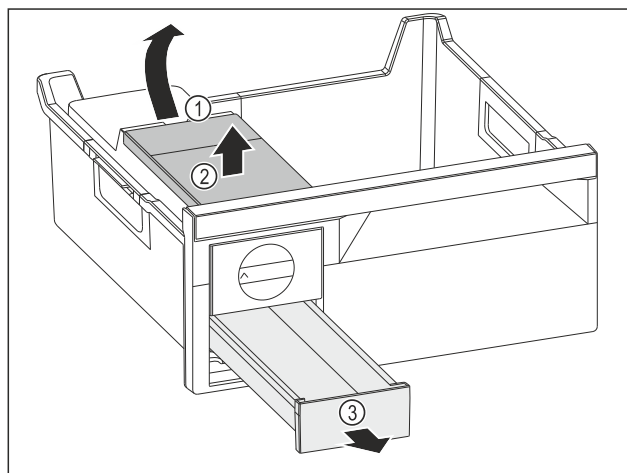

Fig. 84
- Removing the water tank: Lift the water tank by the recess Fig. 84 (1).
- Remove the water tank Fig. 84 (2) upwards.
- Remove the ice cube drawer Fig. 84 (3) to the front.